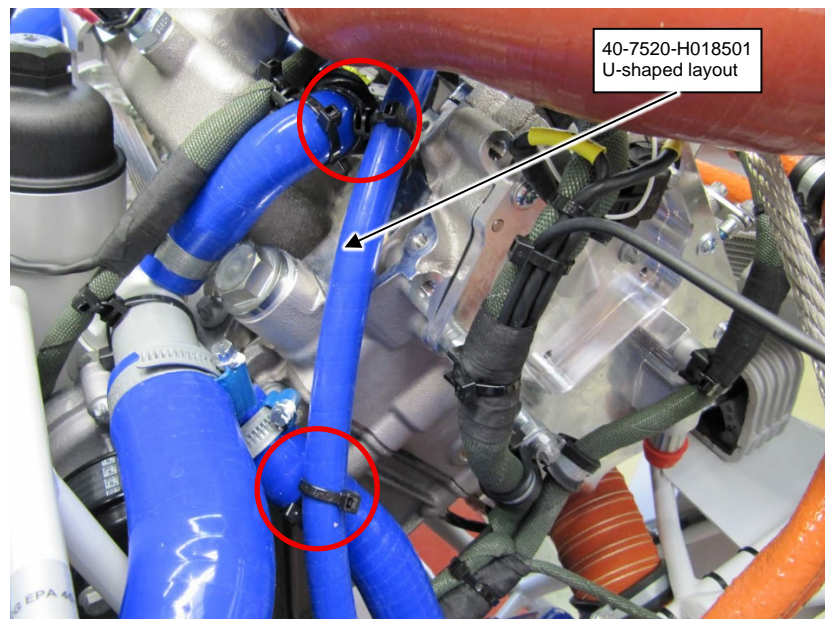

Figure 4: Attaching points fixing ties with coupler
- f) Additionally secure the vent line with two fixing ties with coupler (item 11). Refer to figure 4
- g) Finally, attach the thermostat vent line to the expansion tank using a clamp (item 5) as well as reconnect the bleeder hose, the lower coolant hose and the sensor wire.